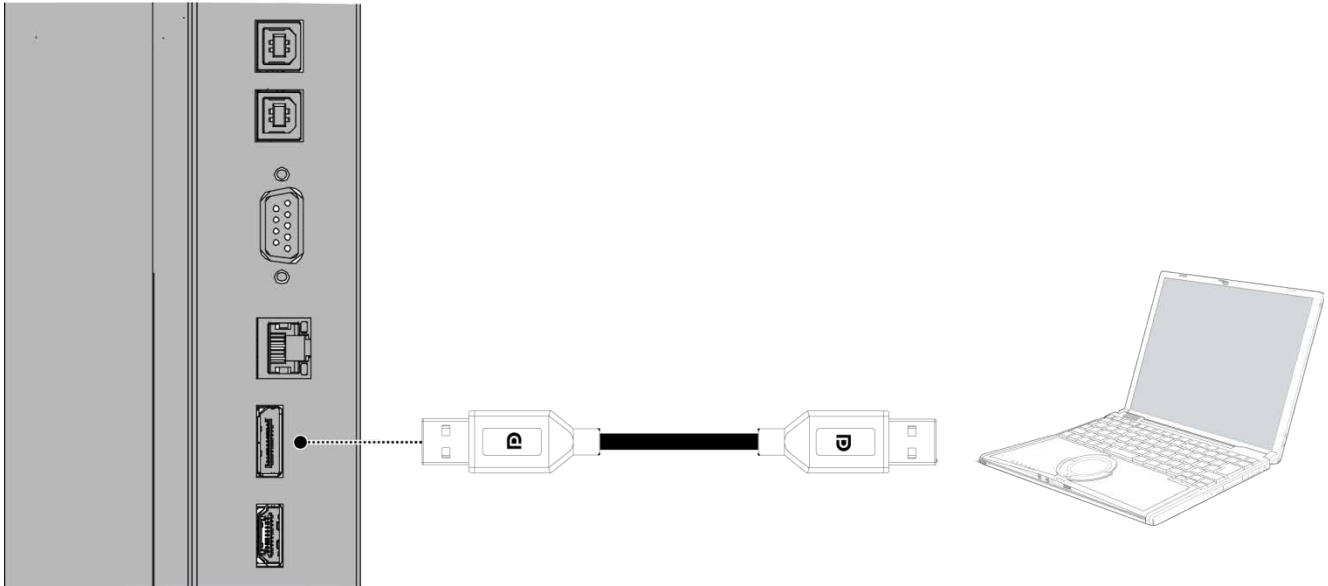
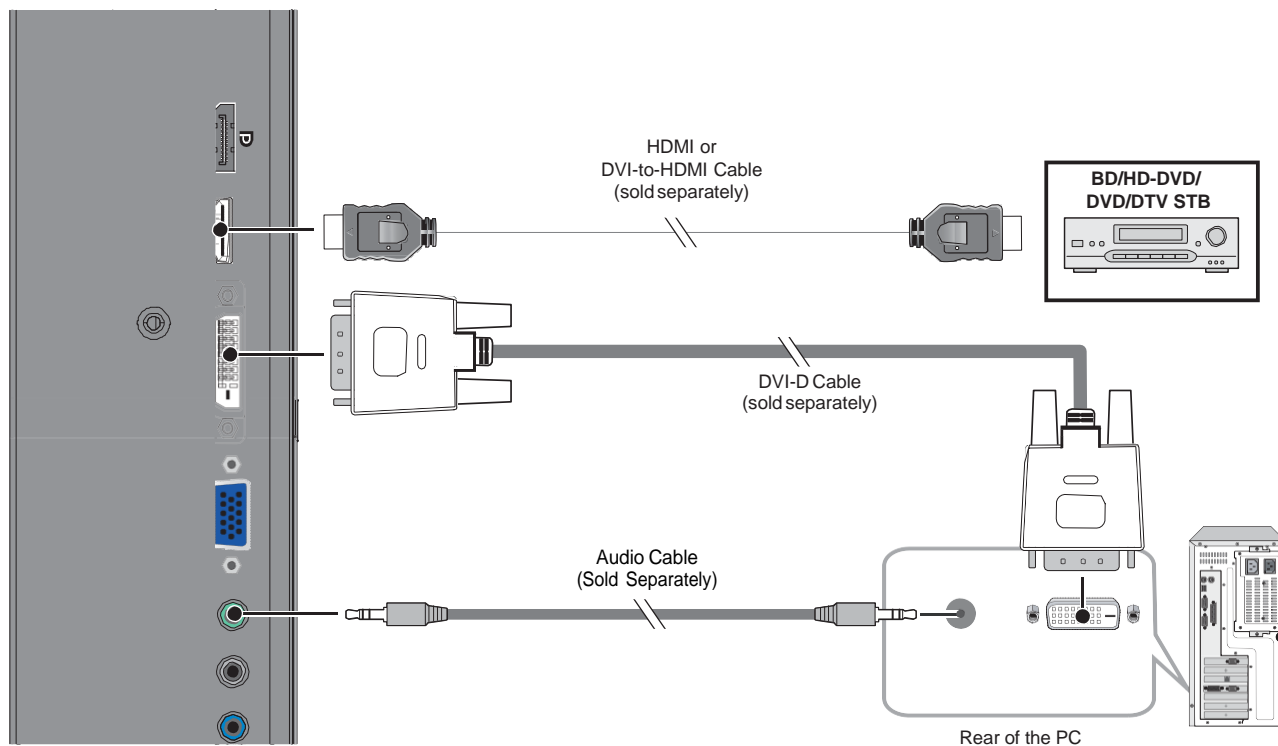
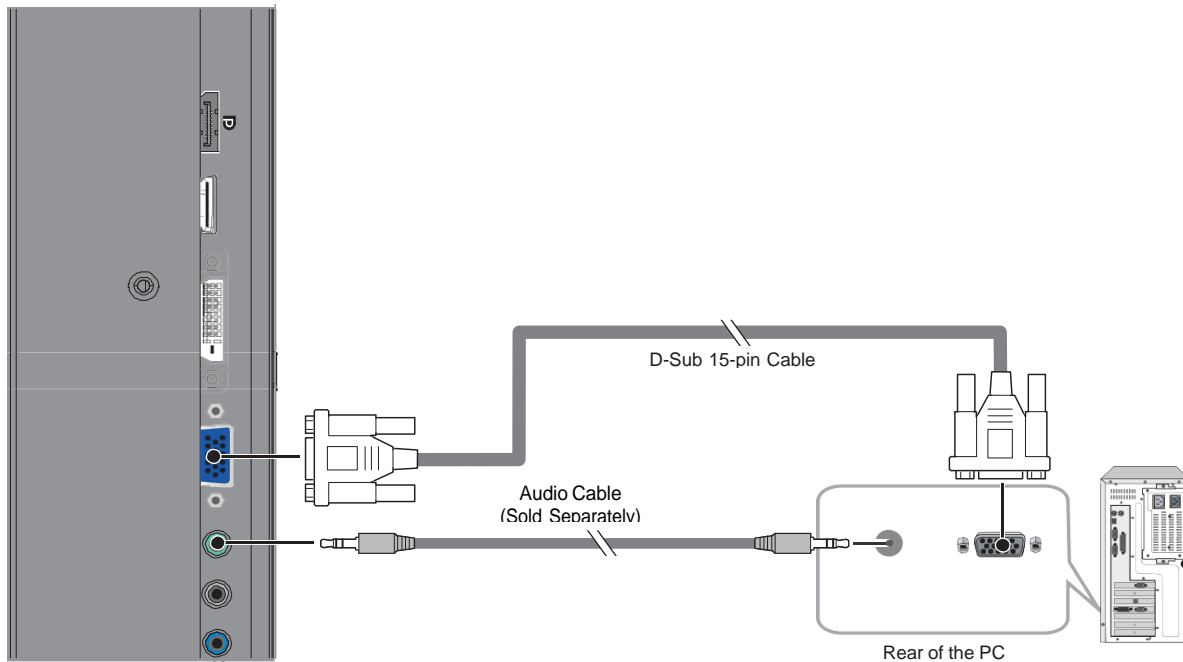

Figure 3-6. DisplayPort Source Connection
Figure 3-7. HDMI and DVI-D Source Connections
Figure 3-8. VGA Source Connections
DisplayPort Source Connection: See Figure 3-6.
HDMI and DVI-D Source Connections: See Figure 3-7.
VGA Source Connection: Connect a personal computer or other RGB source to the VGA input as shown in Figure 3-8.
- The video output from the computer is connected to a video input on the display. See Figure 3-6, Figure 3-7 or Figure 3-8.